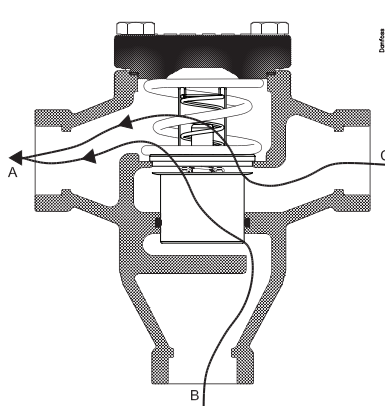
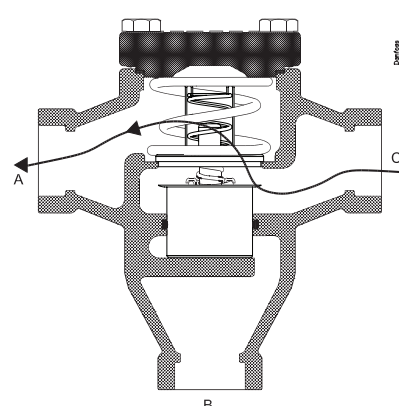

Fig. 1.2
Fig. 1.3
When the nominal temperature is reached, the element is positioned in approximately half open position (fig. 1.2). If the temperature is reaching approximately the nominal temperature plus 5 K, the thermostatic element has been extracted to its fully open position (fig. 1.3). In this position the oil temperature will only come from the cold inlet port (C) from oil cooler.